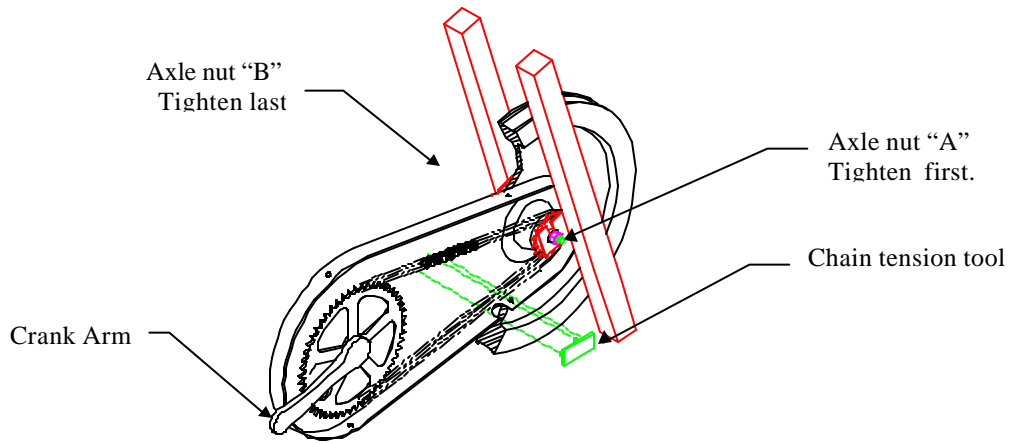

Figure 12
5. With the flywheel in this position, insert the ‘chain adjustment tool’ as shown in Figure 12. **Tighten axle nut “A” first** (Figure 12). Torque on the flywheel axle nut should be 35 ft-lbs.